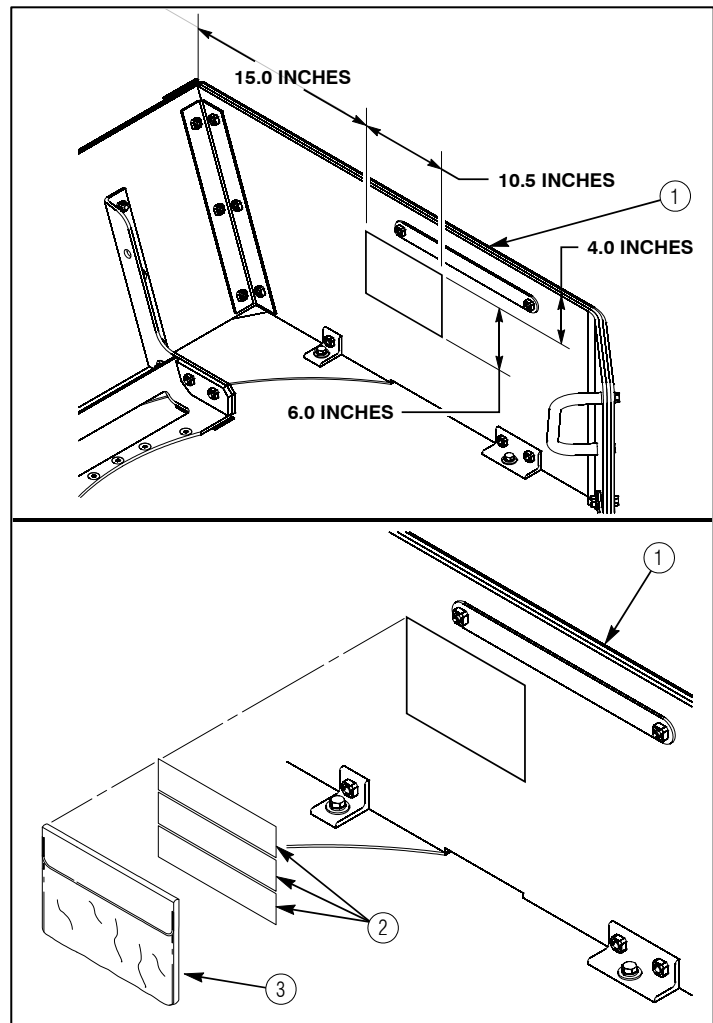

Figure 46
1. Layout and mark a 6 X 10.5 inch area on left side plate (1) of GPK as shown in figure 46.
2. Clean marked area on left side plate (1) with 6810-00-127-4532 ethyl alcohol and let dry. Refer to figure 46.
3. Spray marked area on left side plate (1) with 8040-00-938-6860 adhesive primer. Refer to figure 46.
5. Remove protective backing from three 10.5 inch long pieces of 6431468-05M1 Velcro hook (2) and install in marked area on left side plate (1) as shown in figure 46.
6. Install 6435128-01M1 pouch (3) onto Velcro hook (2) and press firmly. Refer to figure 46.